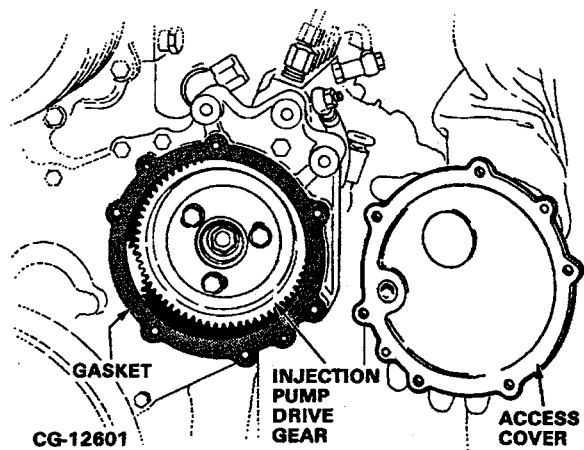

Figure 11.111. Remove Access Cover
- b. Remove the access cover and gasket from the front cover to expose the injection pump drive gear. Discard the gasket. Refer to Figure 11.111.